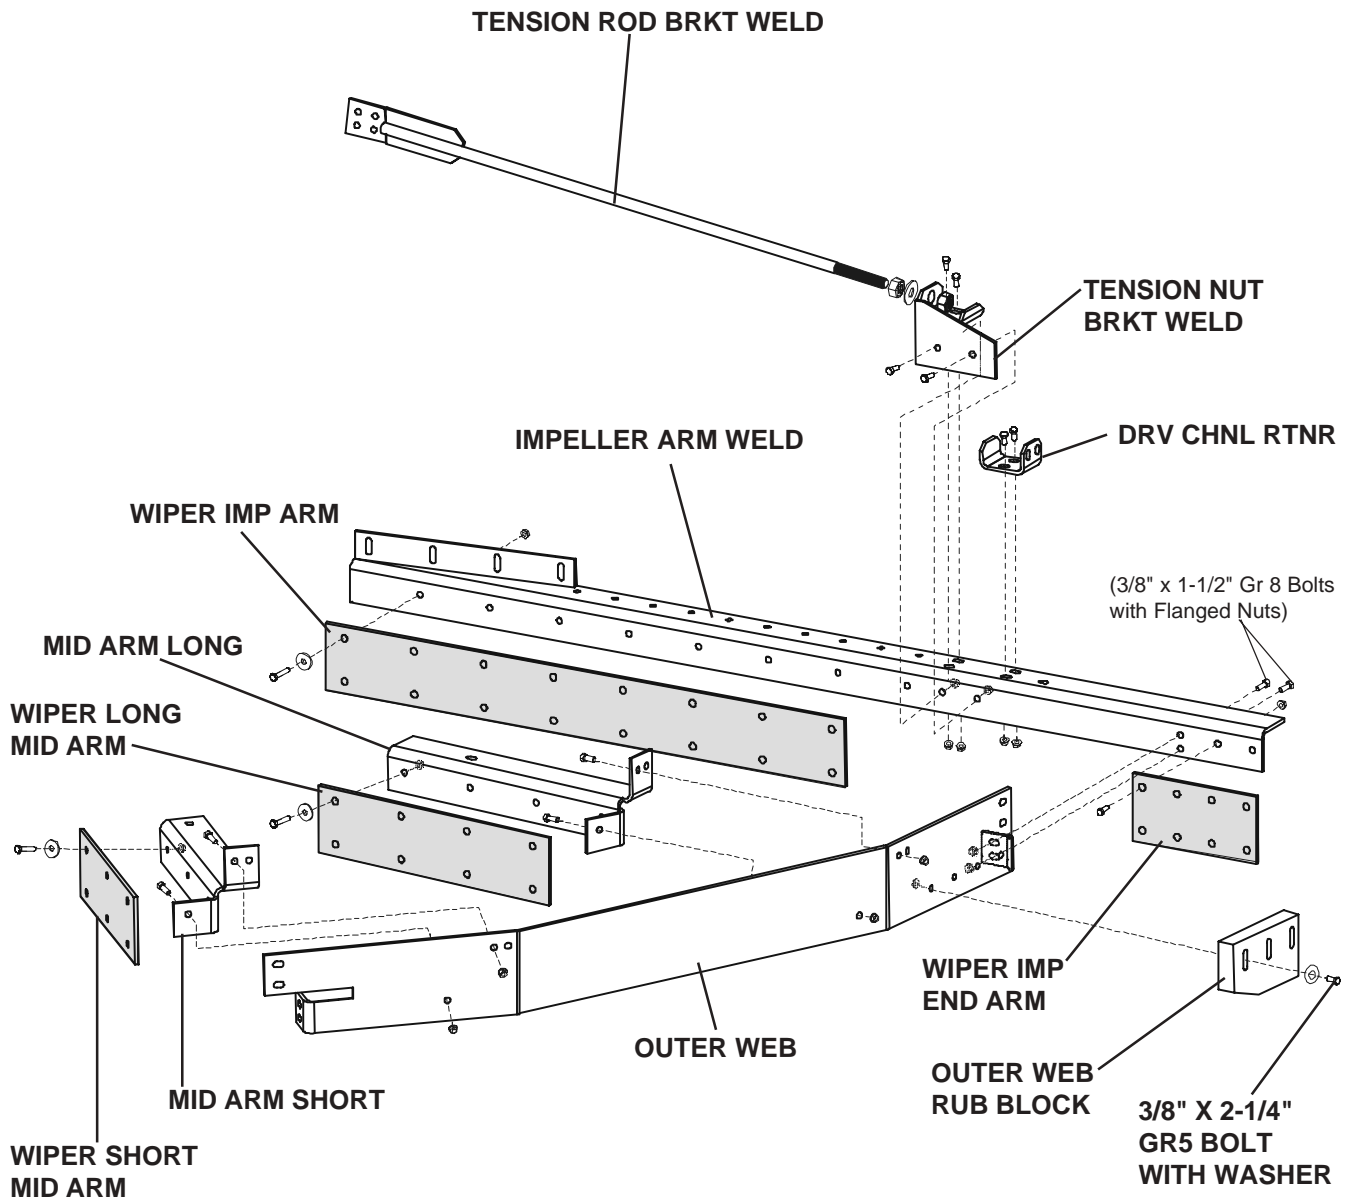

Fig. 9-1
WELDments and the blue cloth backed urethane **WIPER IMP ARMs** and **WIPER IMP END ARM**. Install the wipers on the impeller arms using 3/8" x 1-1/4" Gr. 5 assembly bolts. Install a washer on the bolt and insert it from the wiper side. Secure it with a Flanged Nut. Install the **DRV CHNL RTNR** with 3/8" x 1-1/4" Gr. 5 Bolts and Flanged Nuts. Center the Drive Channel Retainer over the holes in the top of the Impeller Arm when tightening the bolts. Locate the **TENSION NUT BRKT** **WELD**ments and install them on half of the arms. Tighten all the fasteners and set impeller arm assemblies to the side. (See Fig. 9-1)
2. Gather the MID ARM LONG and MID ARM SHORT secondary wiper arms and the **WIPER LONG MID ARMs** and **WIPER SHORT MID ARMs**. Install the wipers on the impeller arms using 3/8" x 1-1/4" Gr. 5 assembly bolts. Install a washer on the bolt and insert it from the wiper side. Secure it with a Flanged Nut and set arm assembly to the side for now. (See Fig. 9-1)
11. Next install the *MID ARM LONG* and *MID ARM SHORT* between the Outer Webs and the Drive Channel. Connections are made using the 3/8" x 1-1/4" Gr. 5 Bolts and Flanged Nuts. (See Fig 9-1)
12. Brace the Main Impeller Arms using the *TENSION ROD BRKT WELDS*. Spin a 3/4" nut on the threaded end of the arm, with a lock washer. Insert the Rod through the Tension Nut Bracket on the arm. Fasten the top end to the center pivot using 3/8" x 1-1/2" Gr. 8 Bolts and Flanged Nuts. Finally install a Lock Washer and 3/4" Nut on the end of the rod. (See Fig. 9-1)